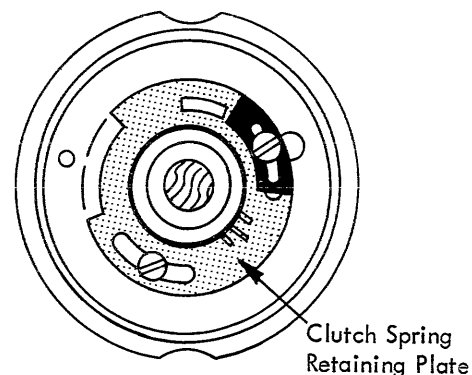

FIGURE 28. Shift Clutch Spring Retaining Plate
2. Shift Clutch Spring Retaining Plate - Adjust the retaining plate attached to the shift cam (Fig. 28) to satisfy the following condition. With the machine turned OFF and the shift cam detented, the shift clutch ratchet should rotate $.028''$ to $.059''$ when the shift release arm releases the ratchet. The rotation can be observed relative to the shift interlock (Fig. 29B). Half the distance from the center of one ratchet tooth to the next is $3/64''$ or $.047''$.